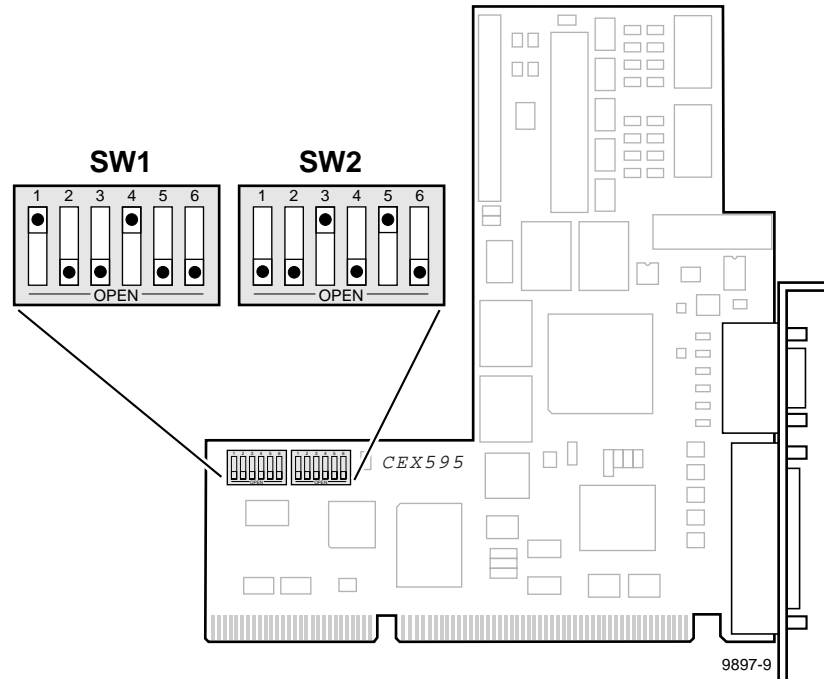
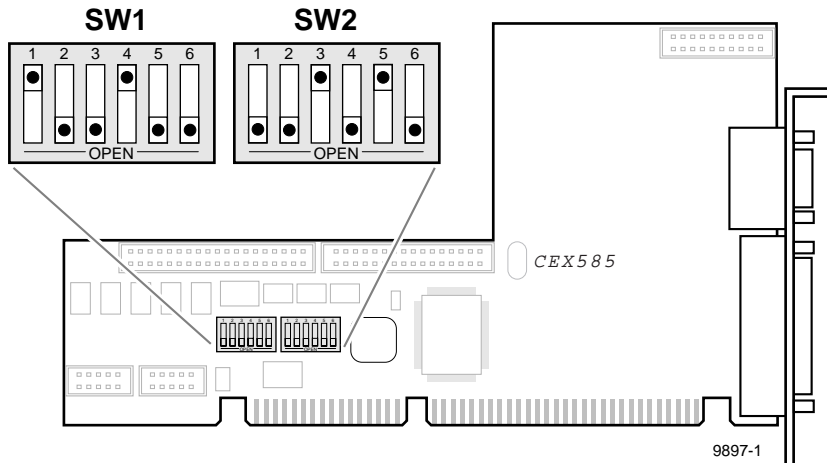

Figure 4. CEX595 VGA-I/O board switch settings to enable parallel port
Figure 5. CEX585 VGA-I/O board switch settings to enable parallel port
7. Set the switches on your VGA-I/O board as shown in Figure 4 for the CEX595 or Figure 5 for the CEX585.